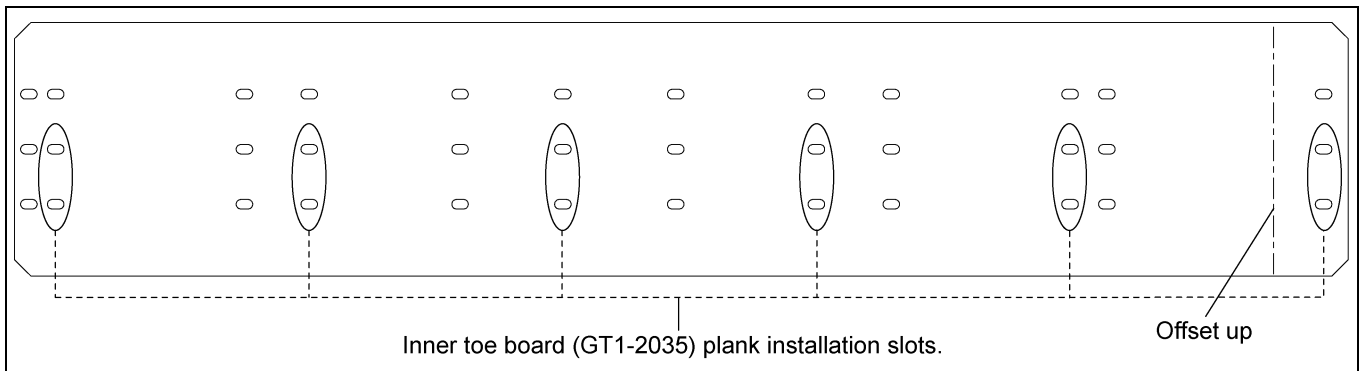

Figure 4K 18' Inner Toe Board (GT1-2035)
3. Inner toe board (GT1-2035) is arranged with many slots to install plank. Install planks to corresponding slots as shown in *Figure 4K*.